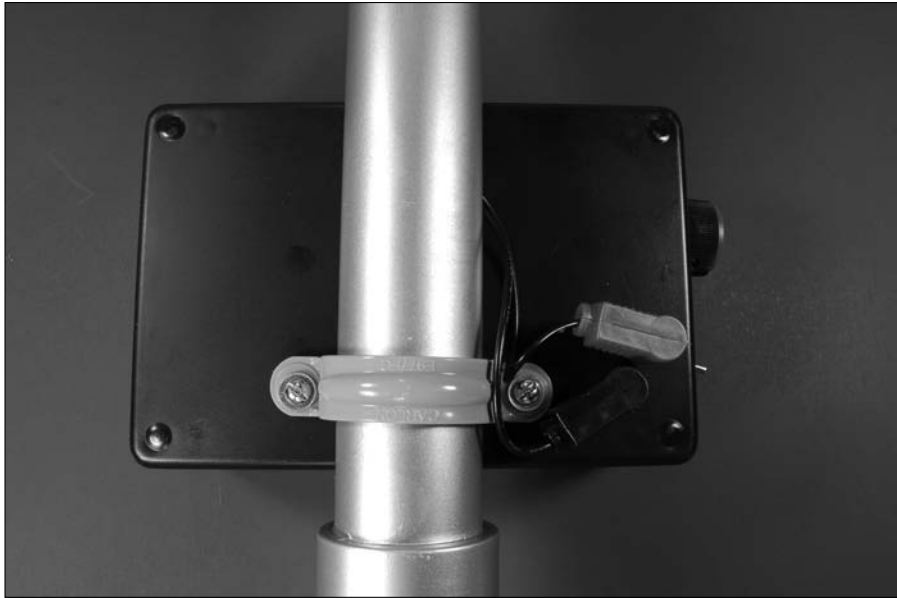

Figure 12-17:
Figure 12-17 shows the box attached to the handle.
- 13. Plug the right-angle phono plugs into the phono jacks, as shown in Figure 12-17.**